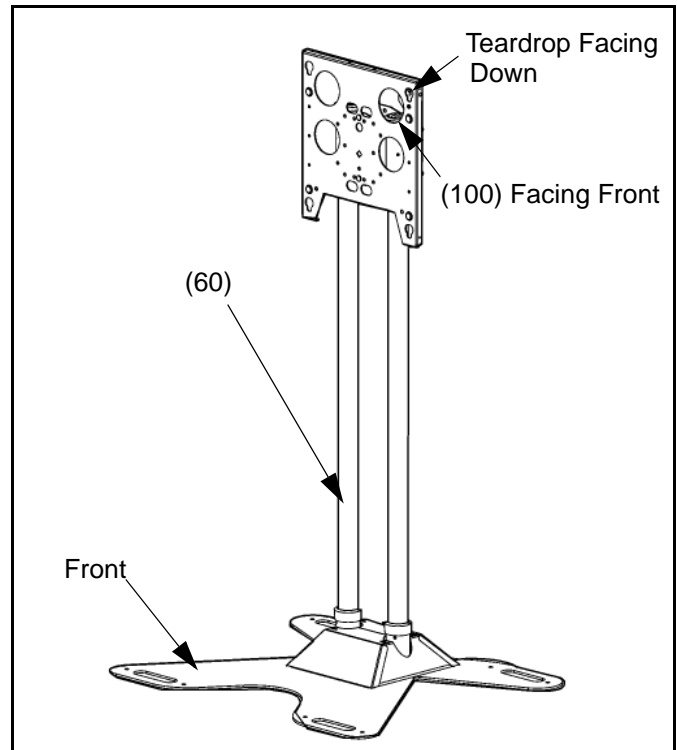
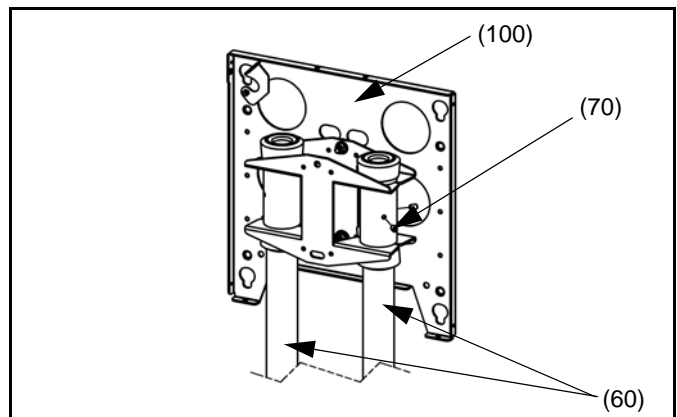

Figure 8: Floorstand Component Orientation
Figure 9: Mount Faceplate
4. Install single screen mounting bracket (100) on tubes (60), set at desired height, and secure using four 5/16-18 X 3/8 socket head set screws (70) (see figure 8) and (see figure 9).